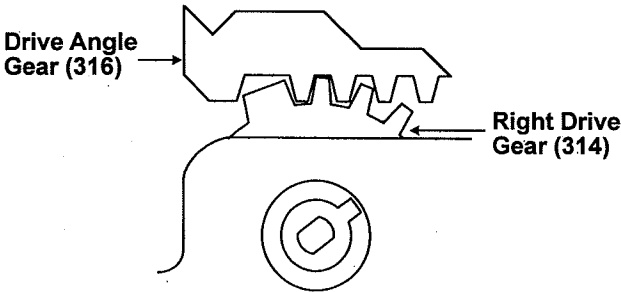

Figure 2
Align the Drive Angle Gear (316) with the Right Drive Gear (314) as shown in figure 2.